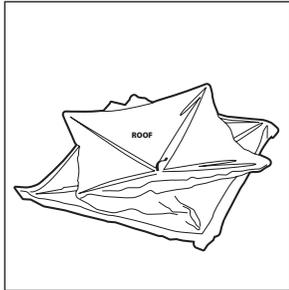

FIGURE 1
2. Lay the ice shelter flat on the ground and be completely sure there is no material twisted or overlapping the ends of any poles. **SEE FIGURE 1. DO NOT force shelter when folding or unfolding. Watch for entanglement of poles.**